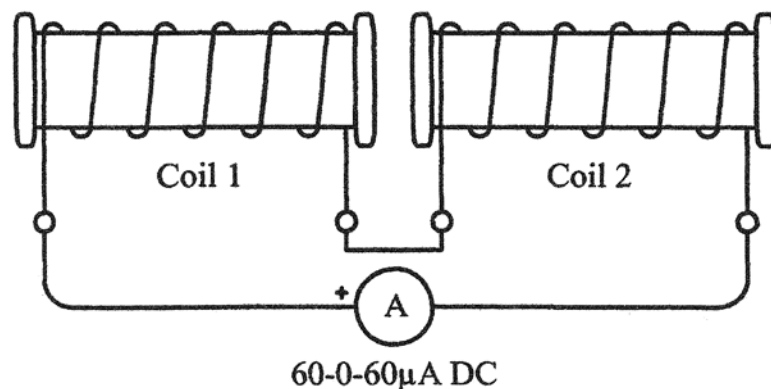

Figure 3
13. Connect the two coils in series as shown in Figure 3. (This will double the number of turns cut by the magnetic field).